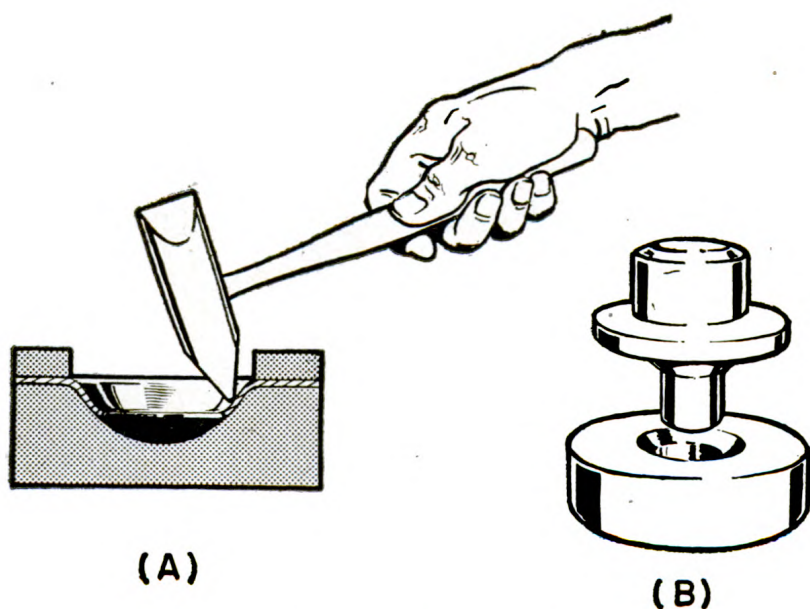

Figure 55.—Flanging an opening.
Holes for weight-relieving purposes are often made on sheet metal parts. To help in stiffening the area around the hole the edges are often flanged. You can make such a flange in one of two ways. The first way, shown in (A) of figure 55, is to lightly hammer the edge over a correctly shaped block until the necessary flange is made.